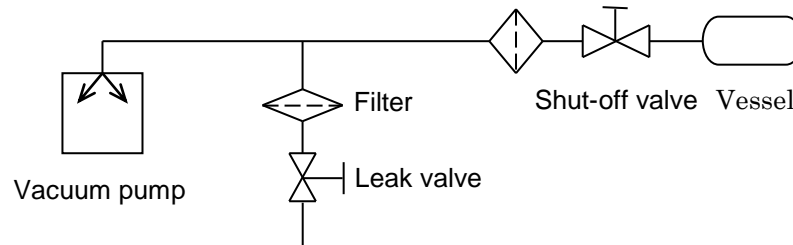

Fig.3.2 Example of Piping Used When Evacuating a Vessel
- 5) When evacuating a vessel, ensure that a shut-off valve is placed between the pump inlet pipe and the vessel (see Fig.3.2).